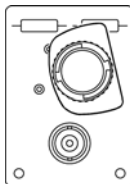

Figure 16 Signal to -Input
- 6 Carefully connect the input of the probe/attenuator to the test board in the position shown in Figure 16 on page 34.